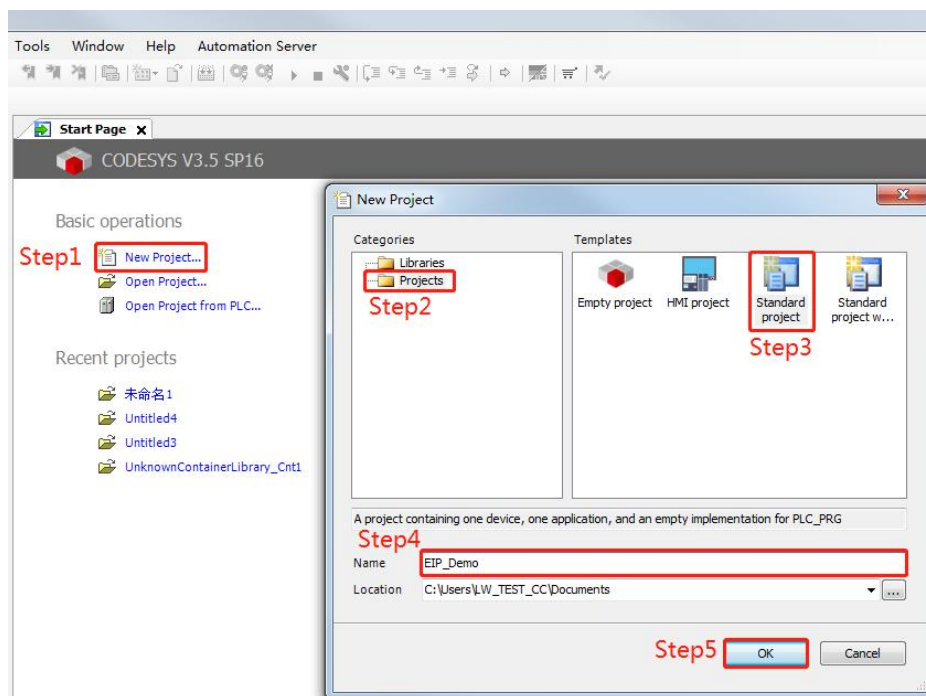

Figure 5-4-1
- Open CODESYS V3.5 SP16 software, click “New project” as shown in Figure 5-4-1: select the corresponding template, fill in the project Name, and click OK to create.